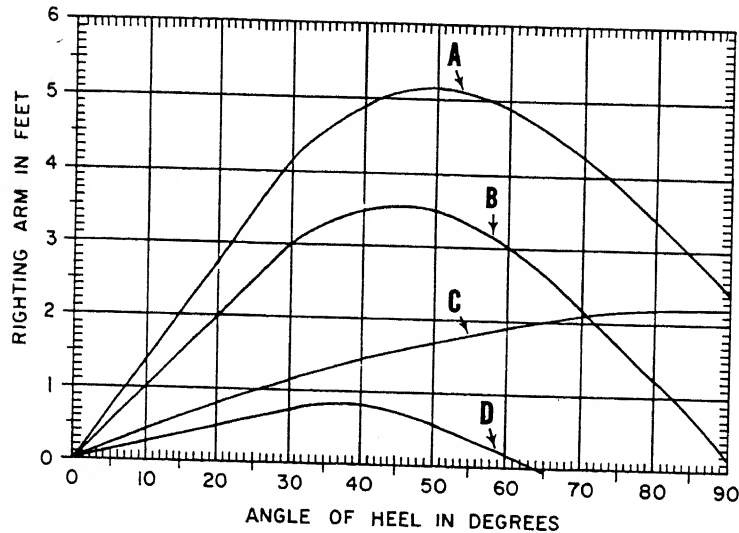

Figure 2F.
- 2-47. Which curves in figure 2F most nearly represent the uncorrected and corrected stability curves respectively?
- 2-48. Assume that the load is moved 18 feet to starboard from the centerline causing a 10° list. Determine the loss in righting arm and the location of the final GZ relative to curve A, B, C, or D in figure 2F. (Cosine $10^\circ = 0.9848$).